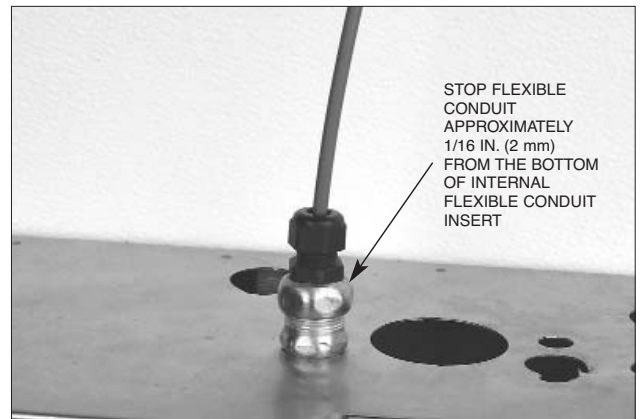

FIGURE 54
9. Slide the flexible conduit into the strain relief until it is approximately 1/16 in. (2 mm) from the bottom of the flexible conduit insert. See Figure 54.